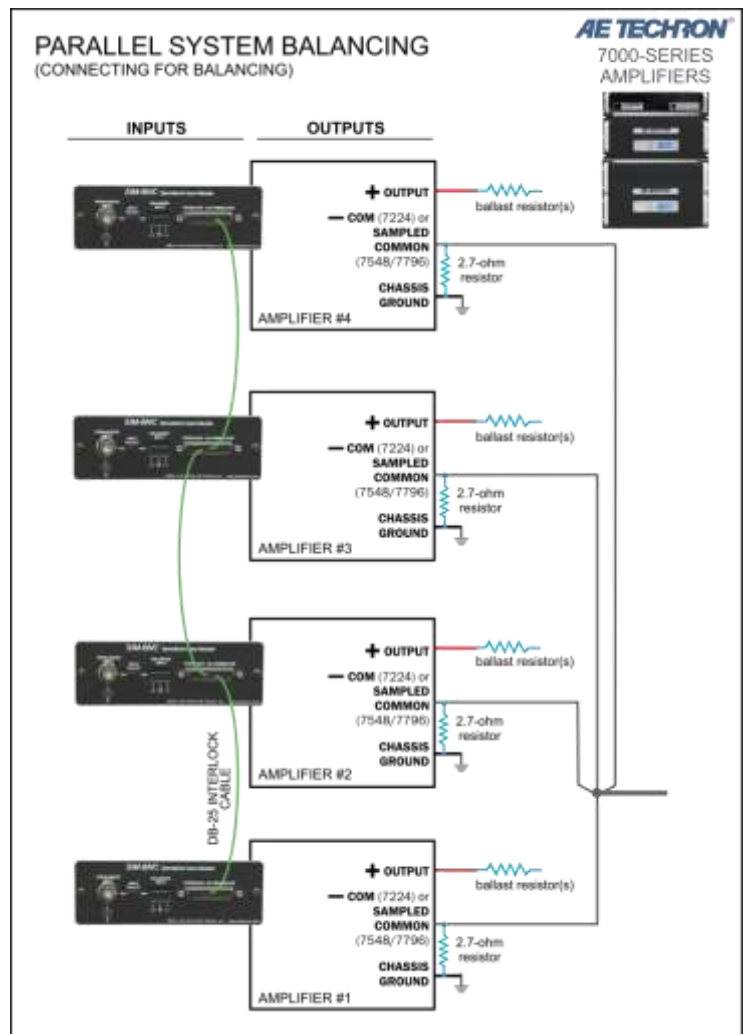

Figure 4.8 – Connecting for Balancing (Four in Parallel shown)
1. For each amplifier in your system, connect a leg of the black output cable found in the Parallel Wiring Kit to one of the amplifier's output connectors labeled COM (7224) or SAMPLED COMMON (7548/7796) on the amplifier back panel. **Important:** Do not connect this cable to the LOAD and do not connect the red cable at this time. See **Figure 4.8**.
2. Starting with either end of the DB-25 Interlock cable found in the Parallel Wiring Kit, connect the DB-25 connector to the INTERLOCK – I/O CONNECTOR on the SIM-BNC input card of the first amplifier in your system. Connect additional connectors on the DB-25 cable to the INTERLOCK – I/O CONNECTOR on the SIM-BNC input card of additional amplifiers in your system. See **Figure 4.8**.